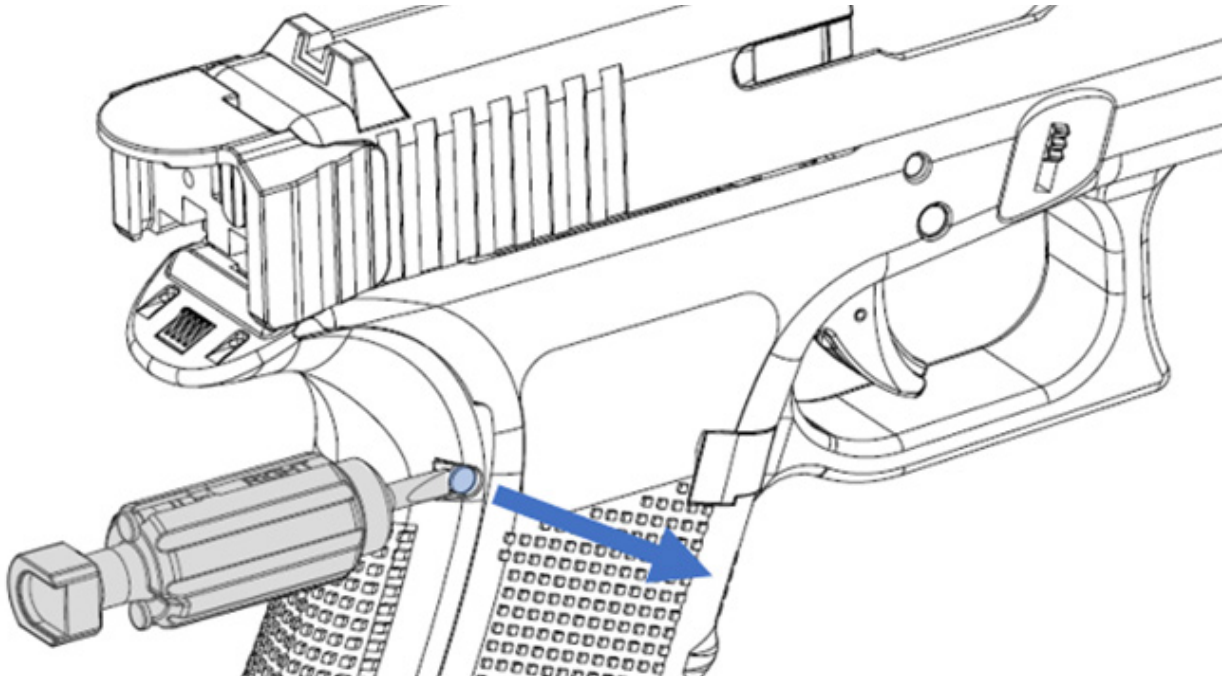

Figure 109: Two Notch Metal Pin disassembly procedure.
1. Insert the screwdriver tip of the Assembly Tool between the two-notch pinhead and the RISCpro Backstrap. Push the Metal Pin out until it can be removed. Store the Metal Pin in the Assembly Tool body for later reassembly (Figure 109).